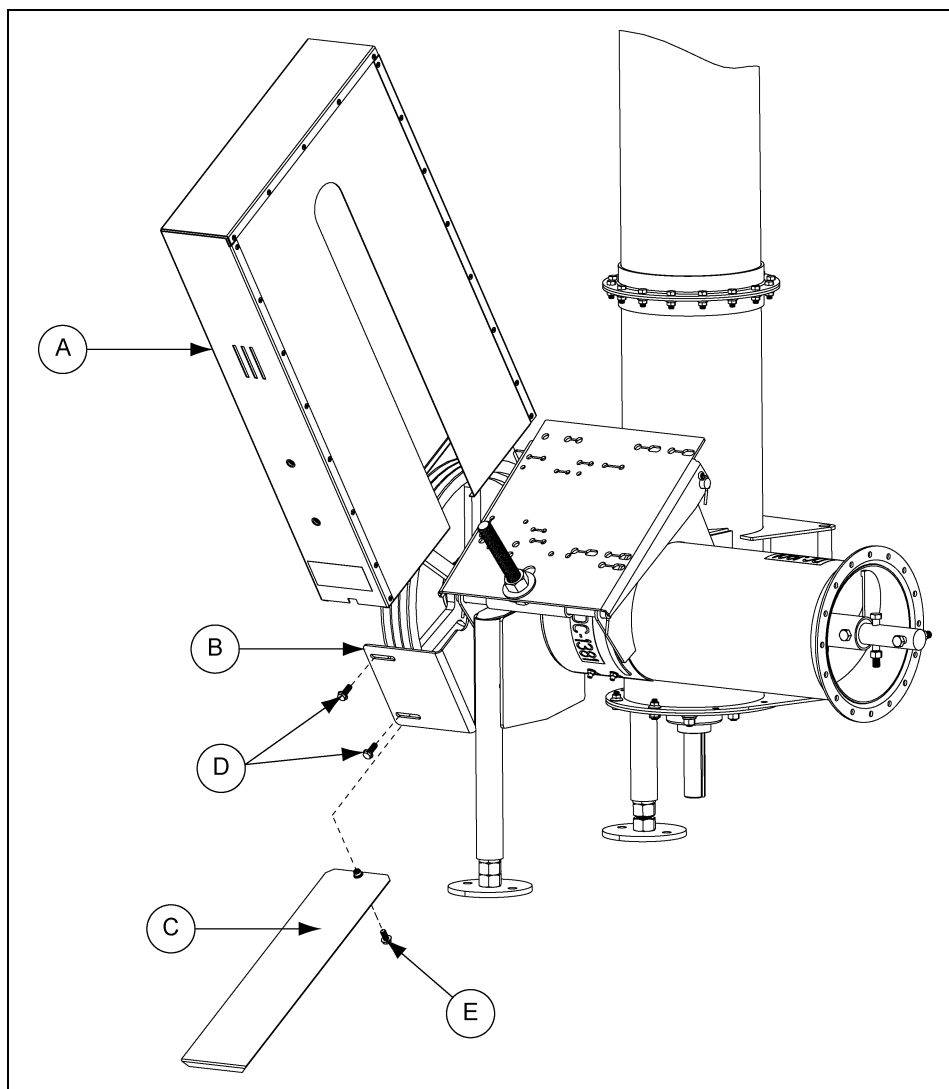
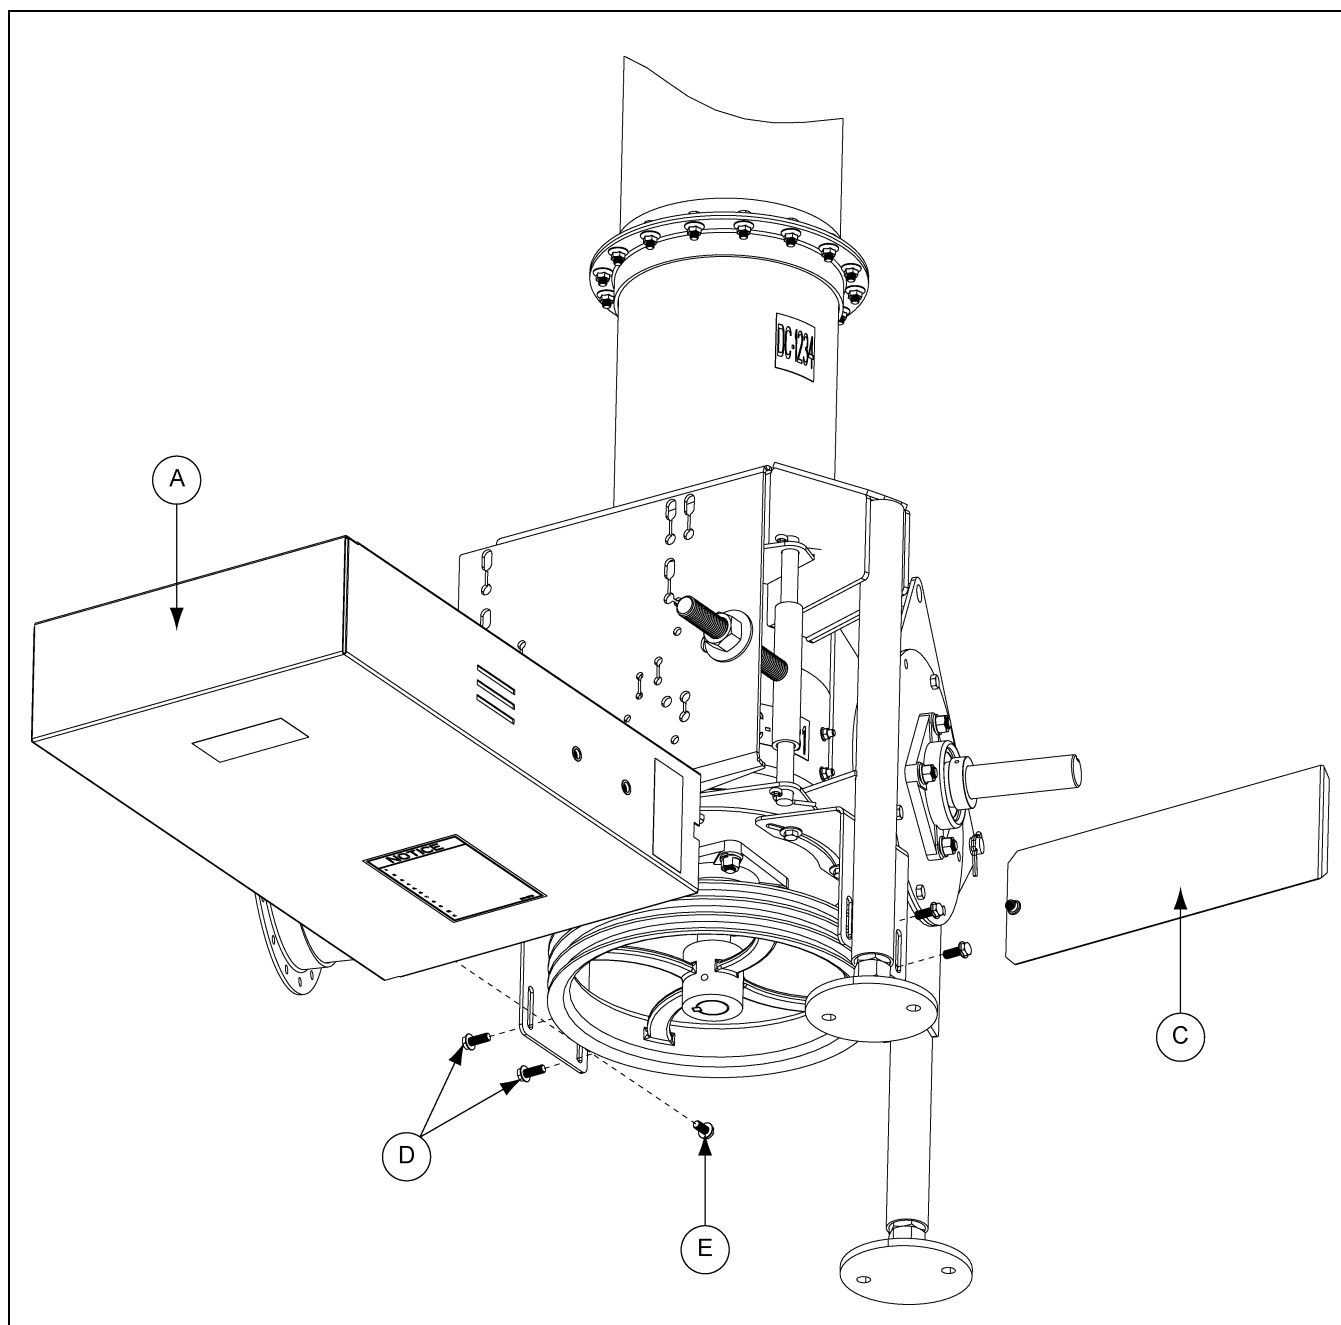

Figure 3R
Figure 3S
- A. With the belts properly tensioned, remove the *bottom belt guard cover (C)* and slip the *belt guard (A)* down over the *motor shaft* and the *flight pulley*.
- B. Bolt the *belt guard (A)* to the *belt guard mounting brackets (B)* using four (4) 3/8" x 1" flange bolts (D). The *belt guard mounting brackets (B)* should still be loose at this time.
- C. Align the *belt guard's* slot with the *motor shaft* and the *flight drive shaft*, making sure that the belt guard does not come into contact with either of the *pulleys*. Tighten down the *belt guard mounting brackets (B)* to the *bearing plate*. (See Figure 3R below and Figure 3S on Page 31.)